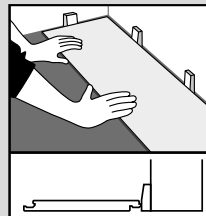

Fig. 1
1. First check the width of the room and calculate how many full rows will fit; the remaining space should be halved to indicate the width of the first and last row of planks. If the space is calculated to be less than 150 mm (6"), the number of full rows should be reduced by one and the width of the cut planks in the first and last rows is increased accordingly. Install the plank with the tongue side/edge facing the wall, fit 5 mm (0.2") spacers between the plank and wall (Fig. 1).